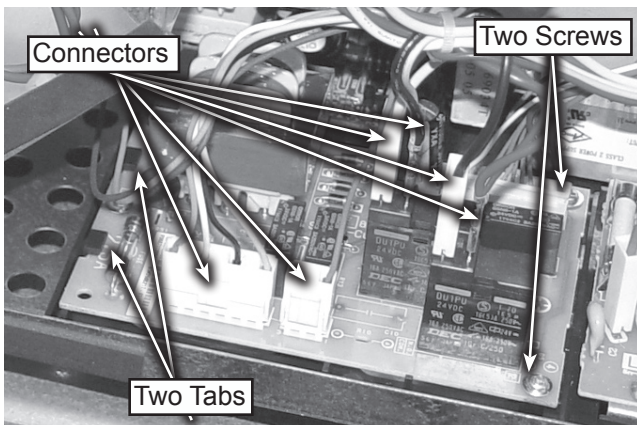

Figure 1
5. Disconnect six connectors from the relay board, see figure 1.
6. Remove two screws that secure the relay board to the microwave, see figure 1.
8. Remove one screw that secures the noise filter board to the microwave, see figure 1.